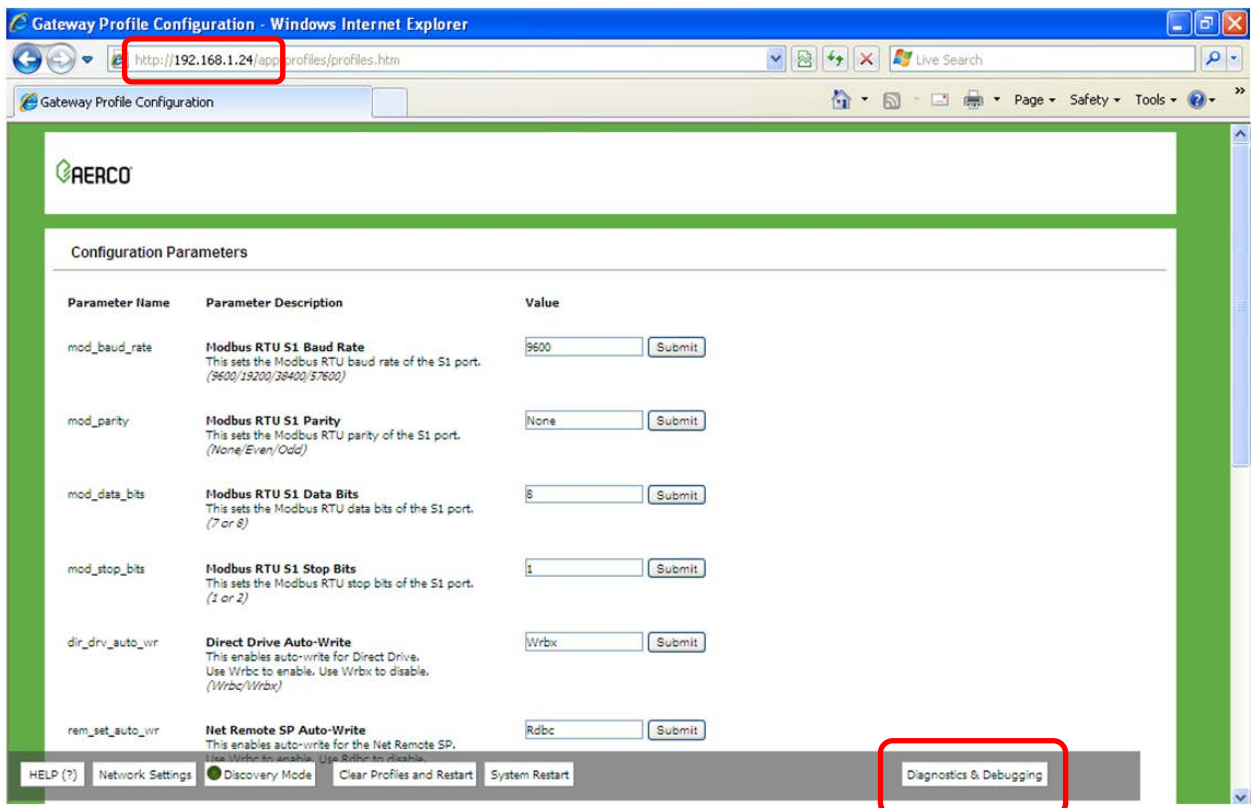

Figure 4-1: Web Configurator Screen with Active Profiles
- The Web Configurator will be displayed as your landing page (see Figure 4-1).